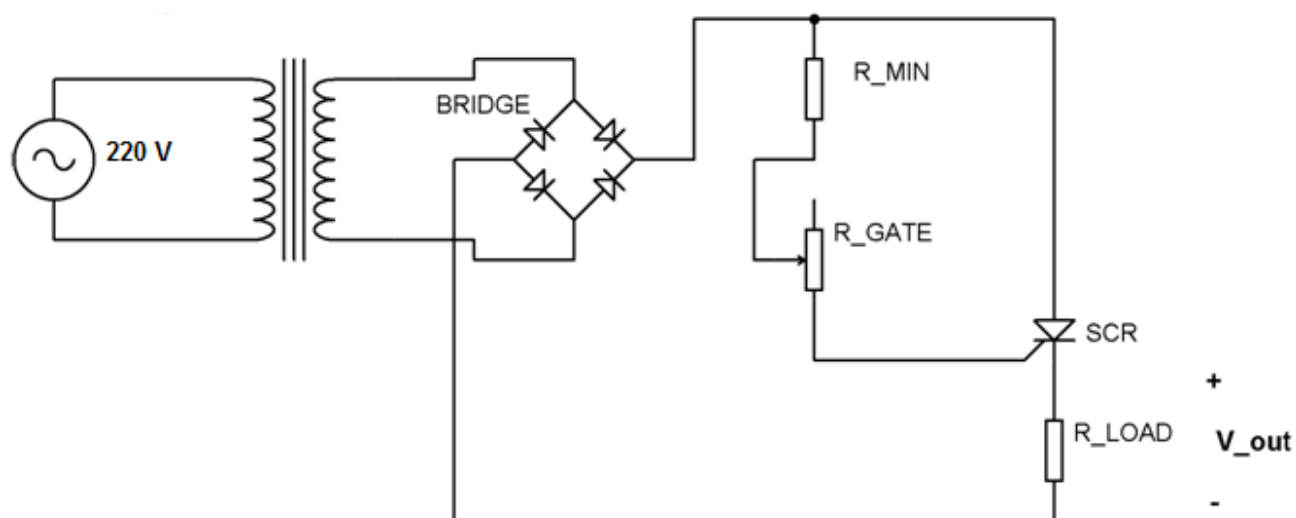

Figure 1. Full wave rectifier using R-triggering
1. Arrange the circuit as shown in Figure 1.